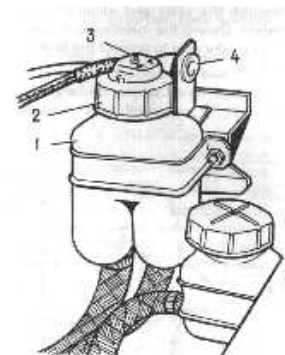

Fig 58. Brake fluid reservoir. 1- fluid reservoir, 2- cap, 3- pusher, 4- inspection lamp socket
Every 10,000 Km check the fluid level in reservoir 1 (Fig. 58), which should be as high as the lower edge of the filler neck with cap 2 installed. Add only brake fluid Hesa or ToML. Depress pusher 3 on the reservoir cap to check the fluid level transmitter for proper functioning; with the ignition switched on the warning lamp should be constantly alight. It is recommended to replace the brake fluid after 5 years of operation.
1. Unscrew the reservoir cap (Fig. 58) and add some fluid up to the normal level.